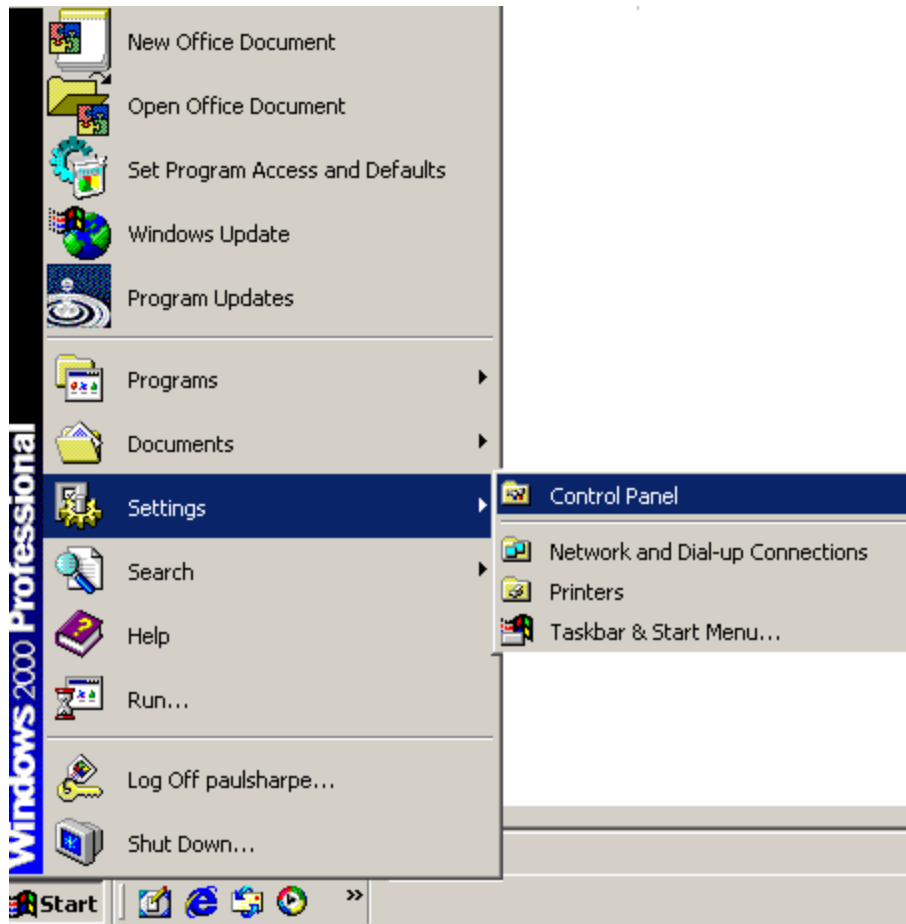

Figure 7-25: Access Windows Control Panel
Step 12: Open **Windows Control Panel** (Figure 7-25).